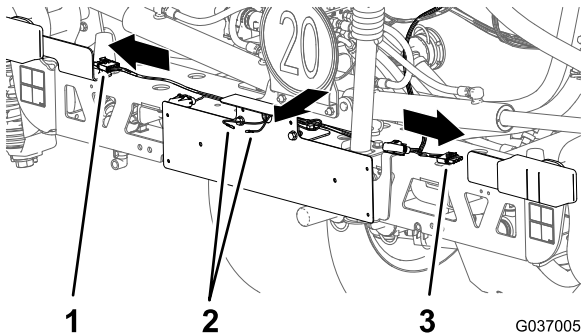

Figure 38
4. Route the wire harness to the left of the flow meter and toward the boom-frame channel (Figure 38).
- 5. Route the 2 bullet connectors labeled LICENSE LIGHT through the 25 mm (1 inch) hole in the license-plate bracket (Figure 38).